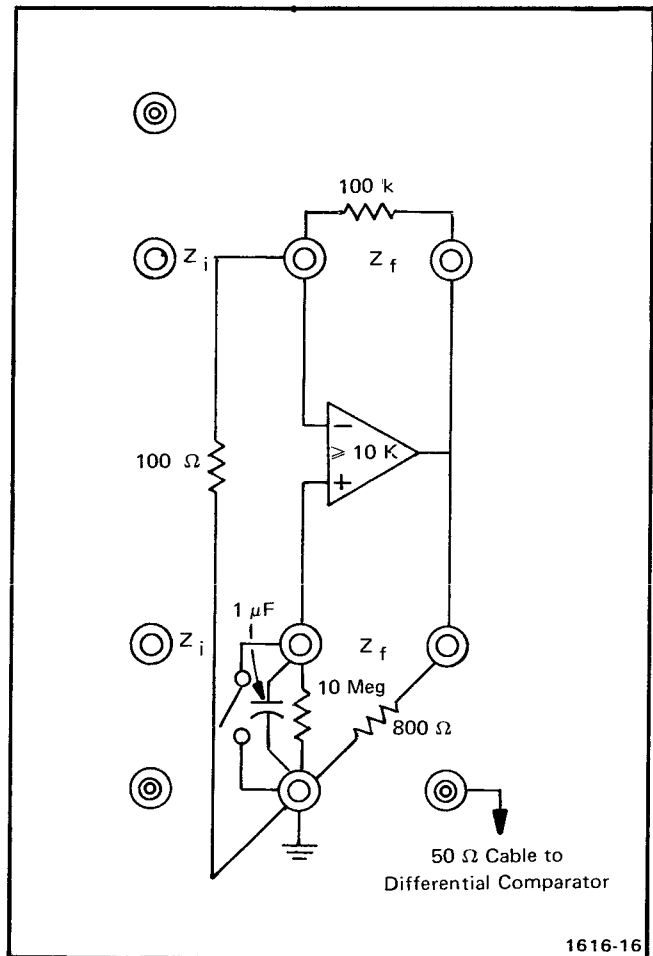

Fig. 2-7. Operational amplifier connected to check Leakage Current for + Input.
- a. Connect the 800 Ω, 100 k, 100 Ω, 10 MΩ, 1 μF capacitor, and the SPST switch to the terminals of the AM 501 as illustrated in Fig. 2-7.